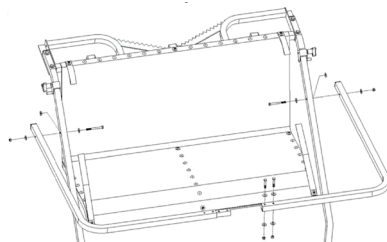

Figure 25
STEP 10: Assemble the two (2) sections of shooting rail using two (2) 1 1/2" bolts, four (4) washers, and two (2) locknuts as shown in Figure 25. Install the assembled shooting rail onto the uprights using two (2) 2 3/4" bolts, six (6) washers, and two (2) locknuts as shown in Figure 25. Make certain to place a washer under each bolt head, between the shooting rail and upright, and under each locknut as shown in Figure 25.